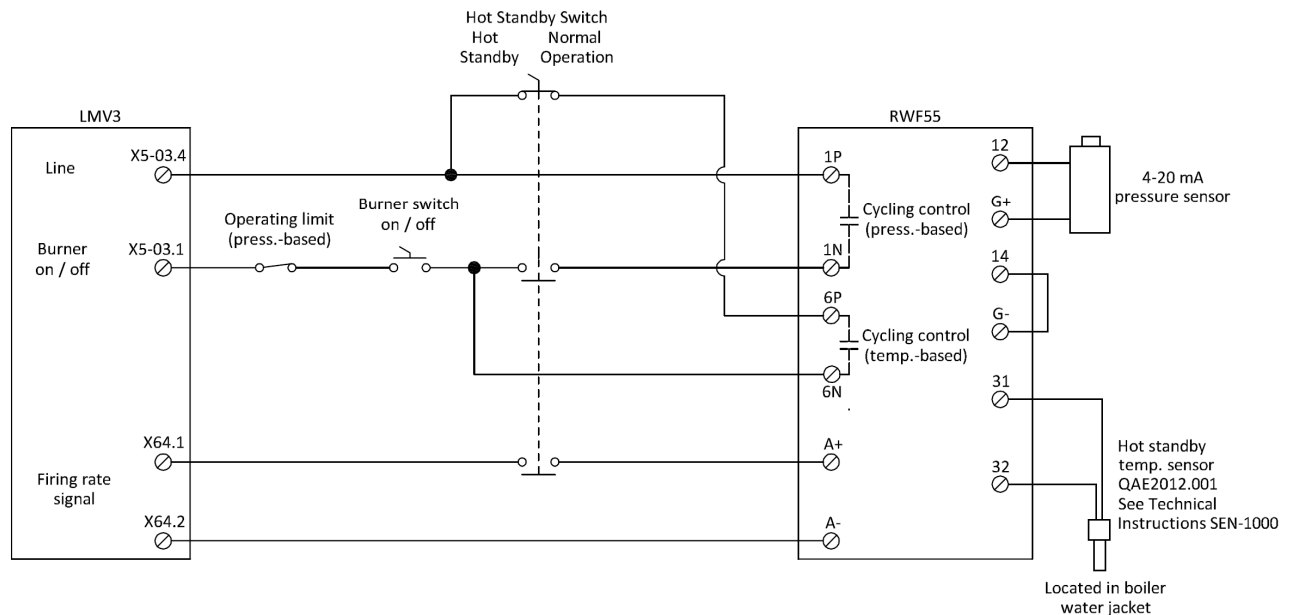

Figure 4: LMV3 Hot Standby Wiring
1. Wire the RWF55 to the LMV3 as shown in Figure 4.